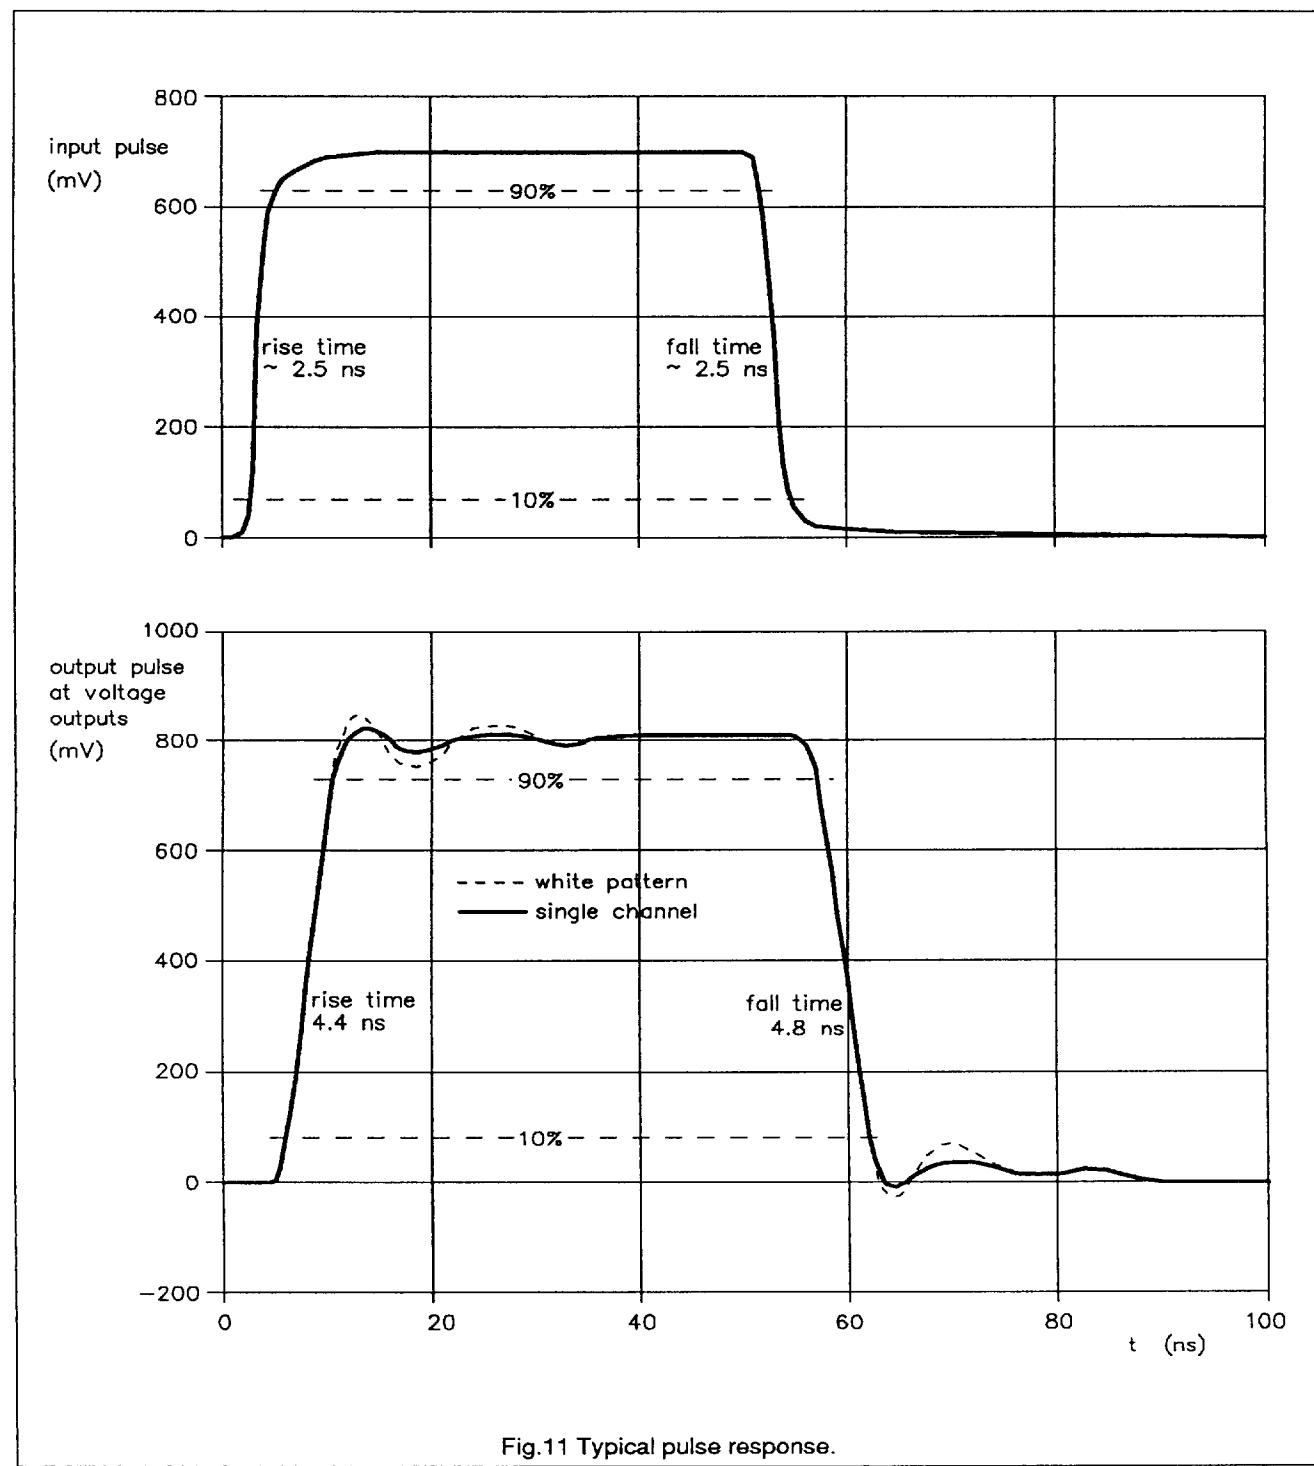
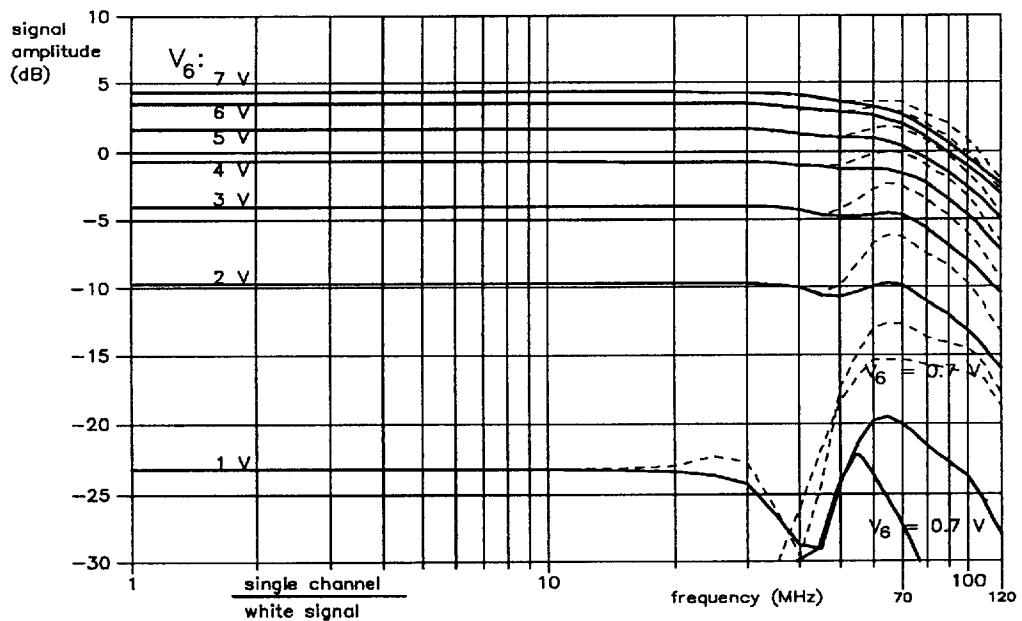

Fig.11 Typical pulse response.
Fig.12 Typical characteristic of contrast control versus frequency.
14. Frequency response, crosstalk and pulse response have been measured at voltage outputs in a special printed-circuit board with  $50 \Omega$  line in/out connections and without peaking (see TEST PCB). Typical frequency response see Fig.10, typical pulse response see Fig.11 and typical characteristic of contrast control versus frequency see Fig.12.